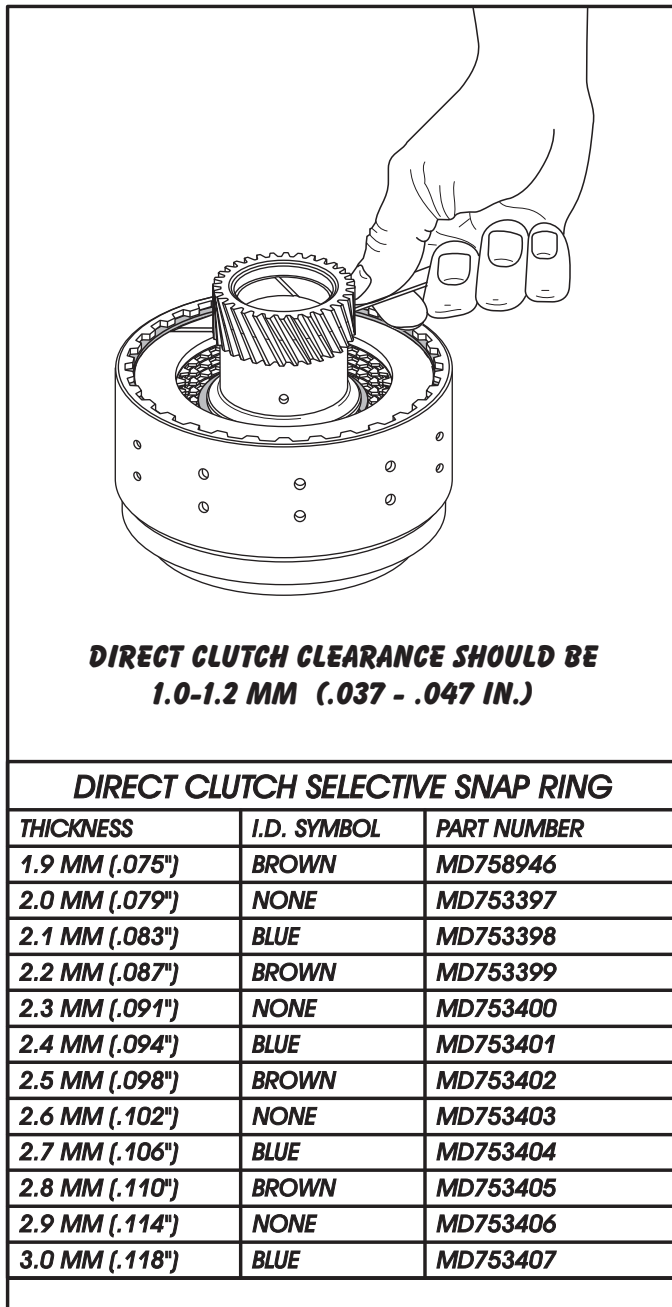

Figure 142
12. Compress the plates by hand and measure with feeler gauge between the snap ring and backing plate, as shown in Figure 142.
14. Change the selective snap ring as necessary, using the chart in Figure 142, to obtain proper direct clutch clearance.